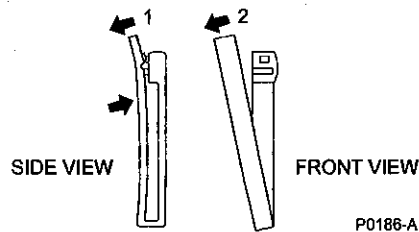

Figure 5 - Golden Hawk belt clips
- It can be placed in its Control Bag which is attached to the operator's waist via two belt clips (see Figure 5),
- The belt clips used on the battery pack are identical to those used on the Control Bag (see Figure 5 for details of clip operation).